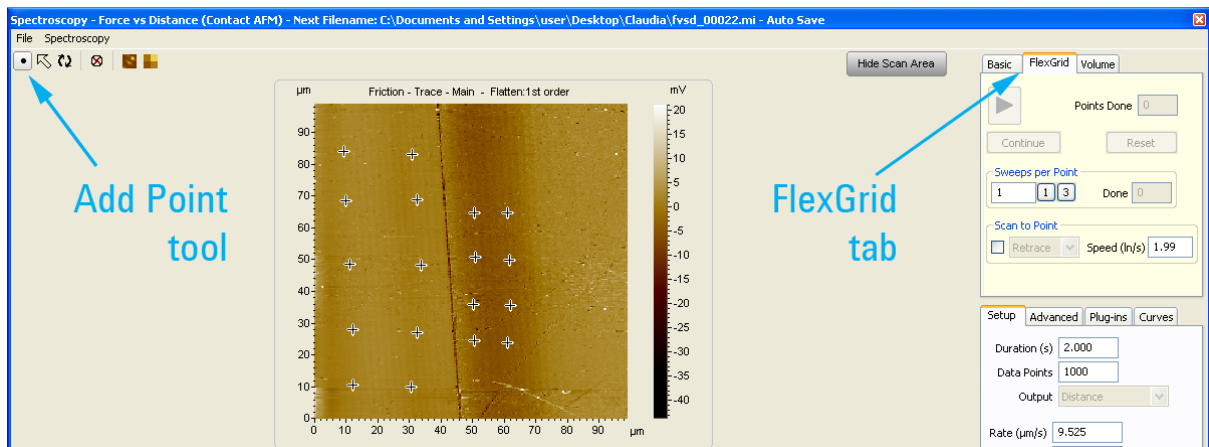

Figure 113 FlexGrid tab of the Spectroscopy window with specific points in the topographic image selected using the Add Point tool.
- 13 Using the **Add Point** tool in the Spectroscopy window, click on one or more areas of interest in the image (as shown in Figure 113).